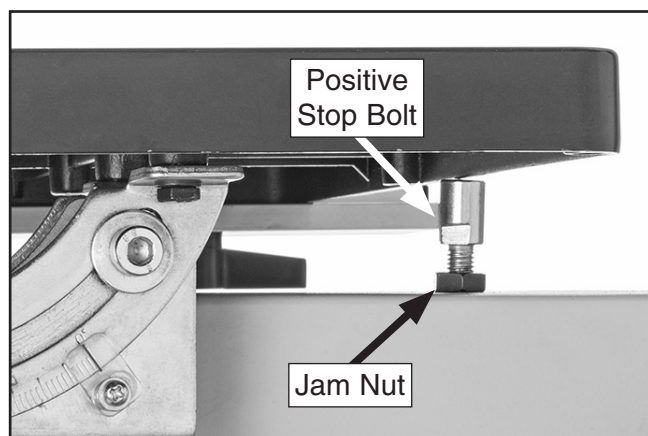

Figure 39. Location of positive stop bolt and jam nut.
The positive stop (see **Figure 39**) allows you to quickly return the table to 0° from a right-tilt setting. The positive stop is adjustable, allowing for calibration, or if desired, minor deviations from 0°.
4. Loosen jam nut on stop bolt (see **Figure 39**), and turn bolt until it just touches bottom of table.